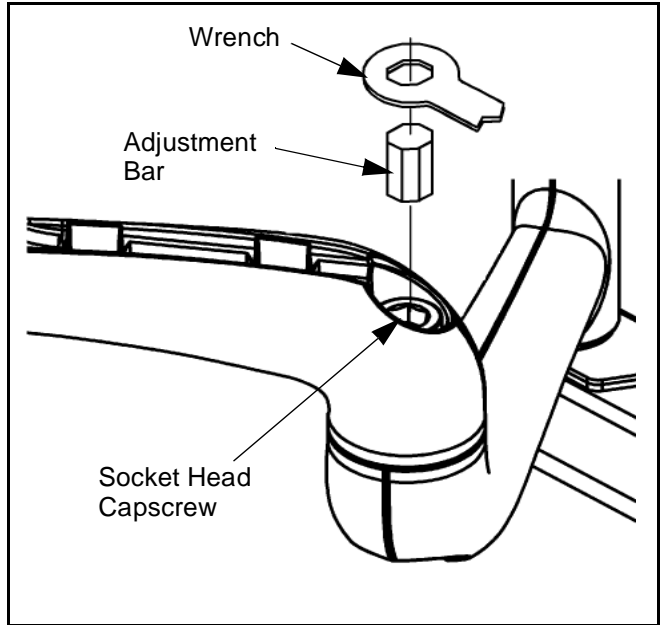

Figure 16
2. Place adjustment bar into socket head cap screw located at swing arm pivot point. (See figure 16)